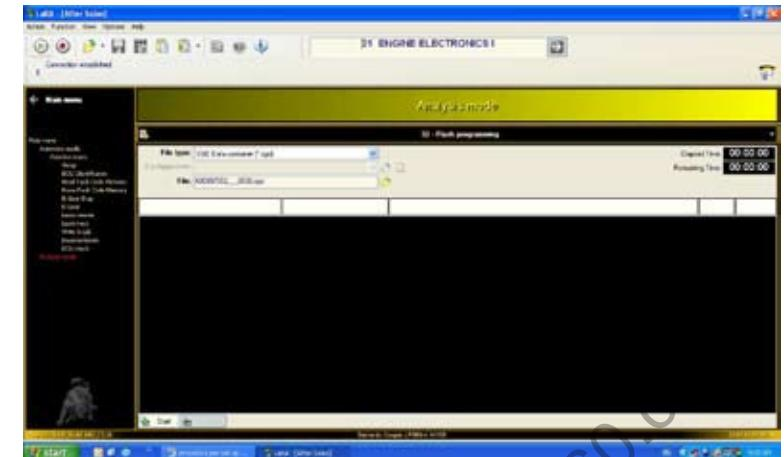

Fig.110
8. Press "Start" to launch the link (Fig.110) and wait about 18 minutes until you receive feedback about the outcome of the MASTER control unit update.